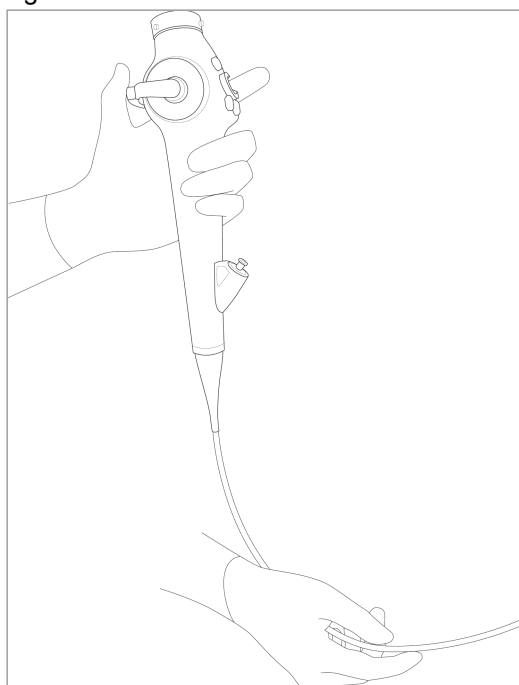

Fig. 3.1
4. Hold the operating section with one hand and gently stroke the entire surface of the insertion section with the other hand in both directions (see Fig. 3.1). Make sure that there is no object or wire protruding from the insertion section. Make sure that the insertion tube is not exceptionally rigid.